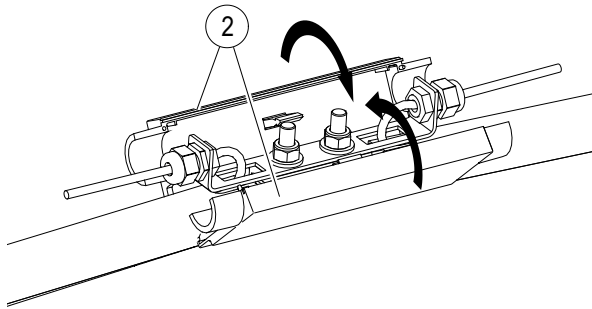
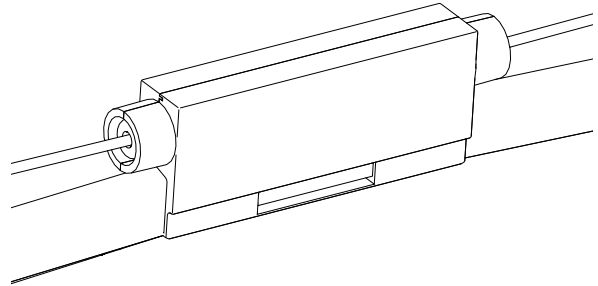

Fig. 42: Clip the two cap halves together
Fig. 43: Cap halves are clipped (without screw connection and grommet)
- Clip the two cap halves (2) together (see Fig. 42 and Fig. 43).